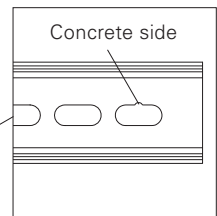

Fig. A1.02a
2. Position the steel walers. Make sure they are placed directly against the stopping boards. For steel walers without end plates, the cut outs in the longitudinal holes must point to the concrete side, i. e. upwards. (Fig. A1.02a)